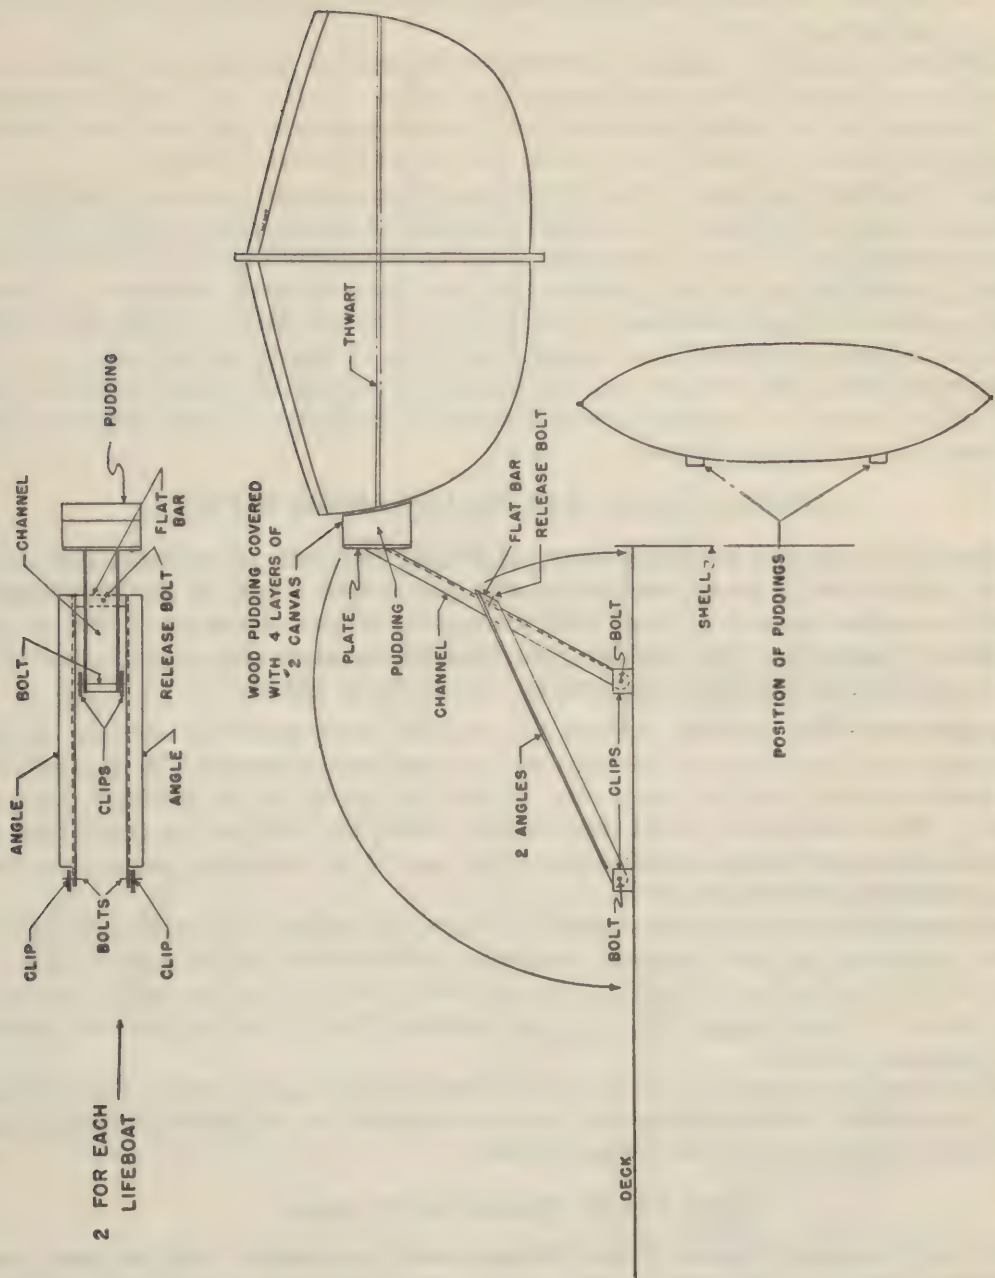

Figure 1.—Outboard lifeboat stowage.
FIGURE 1.—Outboard lifeboat stowage.....	9
**Arrangement of outboard position.**—Certain advantages are obtained by carrying the boats in the outboard position at as high a point above the load water line as is possible. An arrangement similar to that shown in figure 1 is recommended because this arrangement allows boats to be swung inboard with ease, if necessary. On some existing vessels where the relative position of the davit heads and the boats are such as to preclude the boat's keel clearing the margin plate, when the vessel has a slight list, even with the falls' "two blocked", the absolute necessity of carrying the boats swung out is most obvious. On such vessels, if there is insufficient freeboard to carry the boats swung out, they will, of course, have to be carried inboard, but in all such cases serious consideration should be given to raising the davit bases sufficiently to provide the necessary clearance in order that the boats may be swung out easily and clear the edge of the boat deck when the vessel is quite heavily listed, say to 25°.